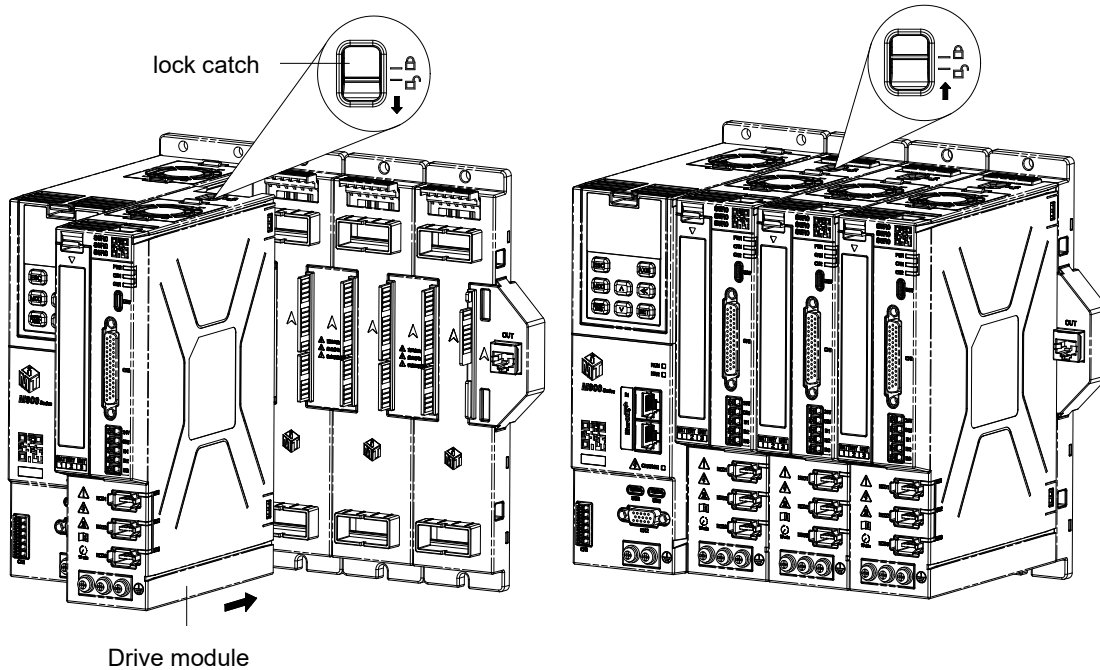

Figure 4-7 Install drive module
4. As shown in Figure 4-7, move the lock buckle at the top of the drive module to the "unlocked" position and align it with the baseplate. Insert it vertically into the baseplate from the front. When the buckle on the top surface of the bottom plate returns to its original position and makes a "click" sound, the drive module is inserted into place. Then move the lock buckle at the top of the drive module to the "locked" position. Using the same method, insert all drive modules into place and lock them securely.